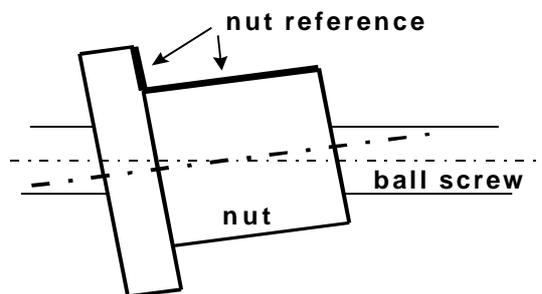

figure 1: Nut reference axis alignment.
- The ball screw nut reference is never parallel to the ball bearing way (**figure 1**)